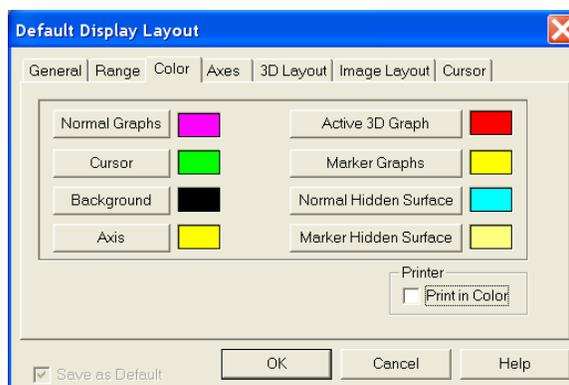

Figure 73. Display Layout/Color tab
- Click on **Axis**. The color palette will open (Figure 73).